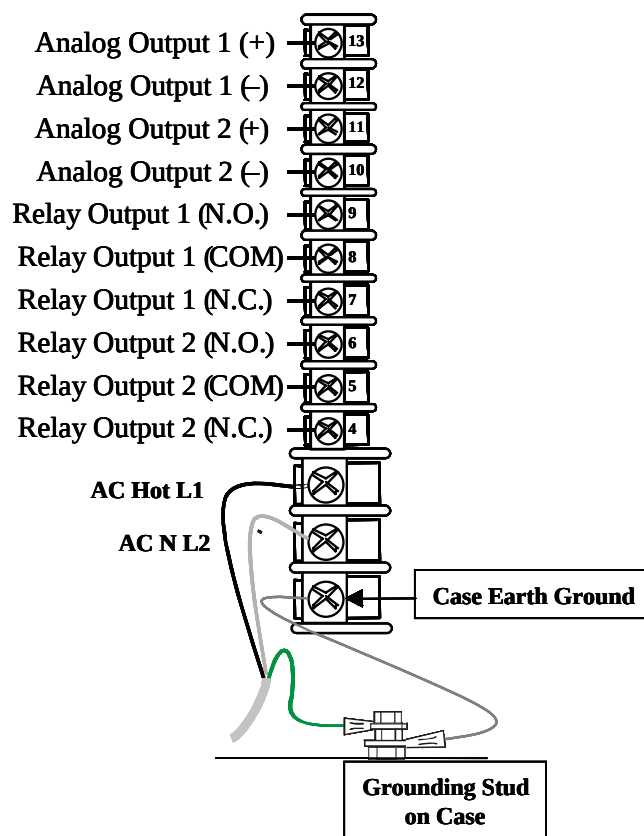

Figure 4-1 Power Wiring
6	Each unit has (4) 22.22mm [.87"] dia. holes on the bottom of the unit for lead wires and conduit fittings. Conduit fittings to be supplied by the user. Feed the power wiring through the wiring port on the bottom of the case. Connect the power wiring to terminals L1 and L2/N as shown in Figure 4-1. Connect the Green safety ground wire to the grounding stud on the case. Attention: Terminal 1 must be connected to the ground stud on the grounding bar using a #14 AWG UL/CSA-approved wire.